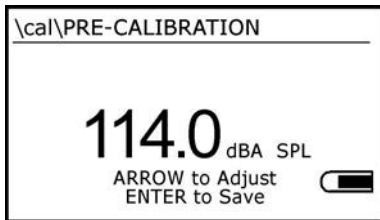

Figure 3-3: Calibration Save display
3. **CALIBRATE** is highlighted in the display. Press  The Calibration Save display appears (see Figure 3-3). The indented Calibration Assignment shows in the Navigation Line.